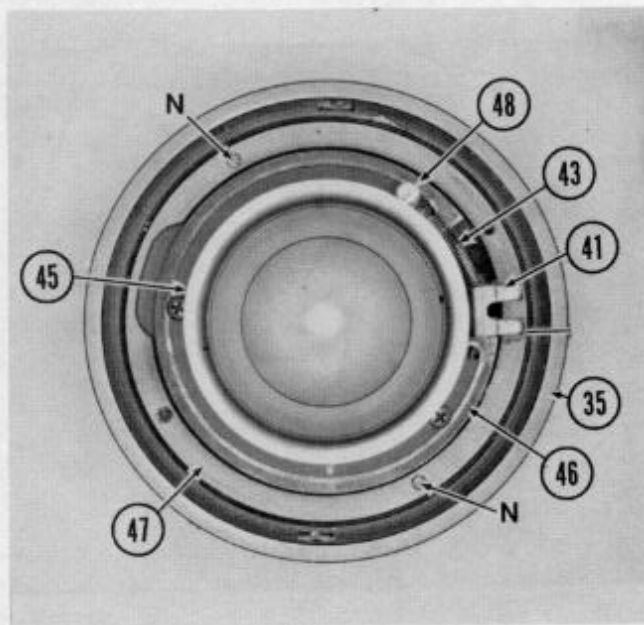

Fig. 25
- 4.1.1 Disconnect Diaphragm Spring (43) from Post Screw (48) and from Diaphragm Lever (41). (Fig. 25)
- 4.1.2 Rotate Diaphragm Lever (41) clockwise, hard against the Diaphragm Limit Ring (46). Scribe a line across rim of Prime Lens Barrel (35), in line with right edge of Diaphragm Lever Fork, as shown in Fig. 25.
- 4.1.3 Remove 2 setscrews (N) in the Diaphragm Housing Retainer Ring (47). (Fig. 25)
- 4.1.4 Holding Diaphragm Housing (45) so that it cannot rotate within Prime Lens Barrel (35), remove Diaphragm Housing Retainer Ring (47) by unscrewing it counterclockwise. (Fig. 25)
- 4.2.5 Install Diaphragm Housing Retainer Ring screwing it down until snug so that the Diaphragm Housing (45) will just turn. (Fig. 25)
- 4.2.8 Holding Diaphragm Lever clockwise against its stop, rotate Diaphragm Housing (45) to realign Diaphragm Lever and scribed line as shown in Fig. 25.
- 4.2.10 Replace Diaphragm Spring (43), attaching one end to stud on Diaphragm Lever (41) and one end to Post Screw (48). (Fig. 25)